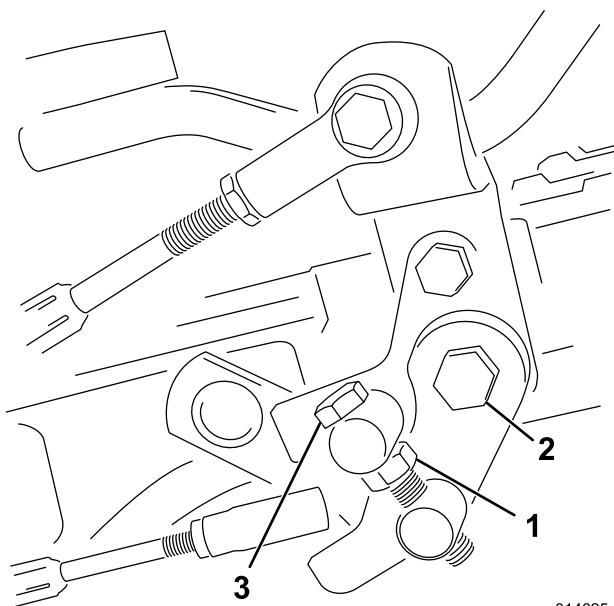

Figure 36
4. Tighten the jam nut on the trunnion bolt and the nut on the pedal pivot to lock the adjustment (Figure 36). Check the adjustment and adjust as required.